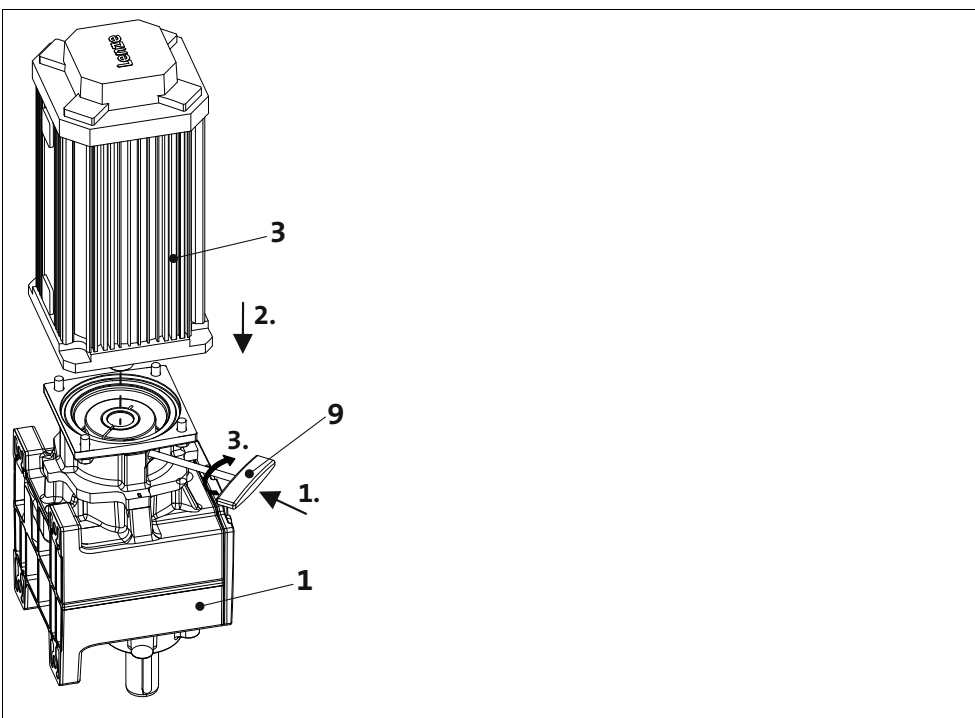

Fig. 8 Mounting of motor and gearbox
4. Afterwards, insert the wrench (9) into the terminal screw (8) of the clamping ring (7) and leave it there (Fig. 8). The terminal screw (8) must only be tightened to such a degree that the clamping ring (7) does not move but the shaft is not tightened yet!